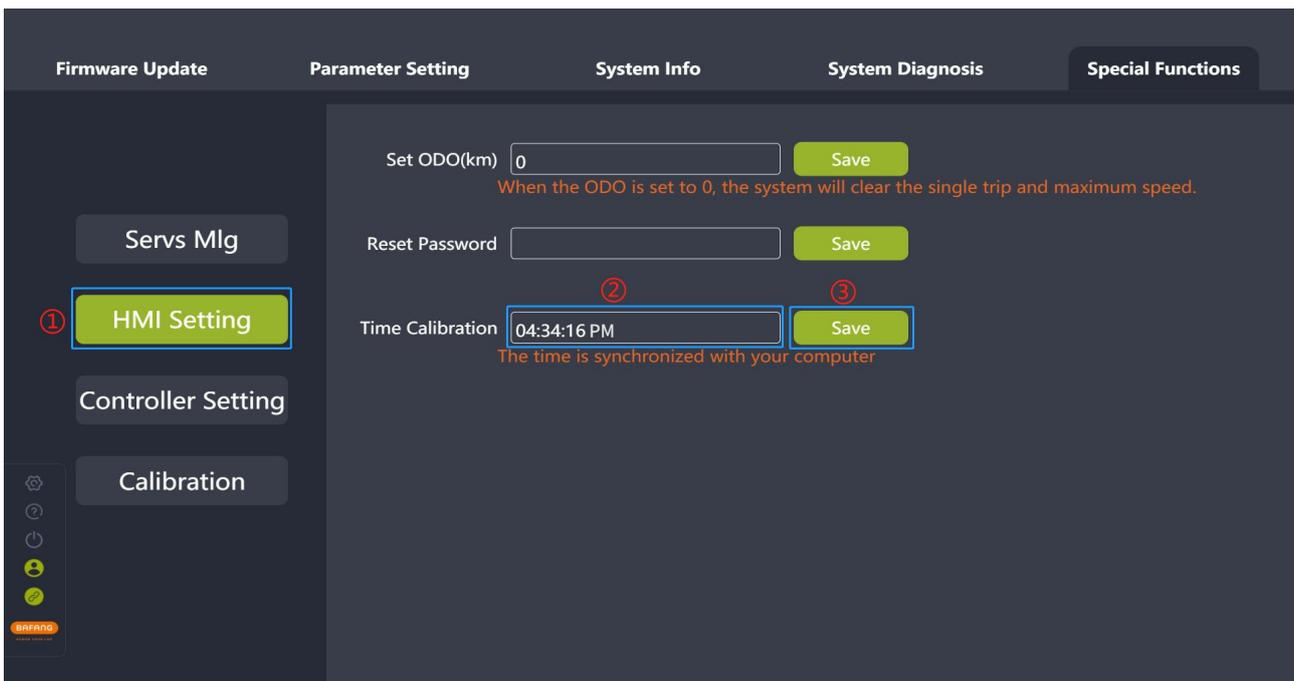

Fig. 8-6 Time calibration
- (1) Connect the BESST Tool to the HMI (if supports) and select "HMI Setting".
- (2) The current computer time will be shown in the "Time Calibration" box.
- (3) Click "Save", and the HMI time will be calibrated successfully (Fig.8-6).